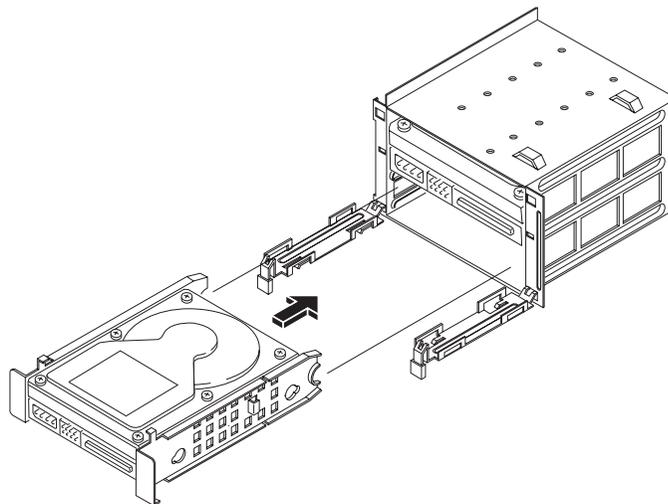

Figure 3-8. Drive Cage Mounting
7. Slide the drive into the lower cage opening with the data and power connectors facing out of the drive cage. See Figure 3-8.